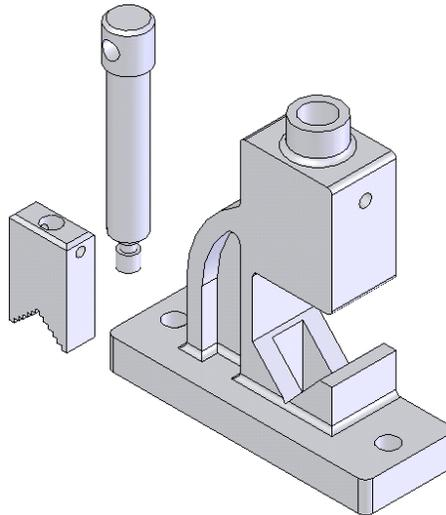

Figure 10-78 The Moveable Jaw and Screw placed in the assembly document
- c. Place the Moveable Jaw and the screw in the assembly. Apply the mates between Moveable Jaw and the Screw, refer to Figures 10-78 through 10-80.
3. Similarly, place the screw in the assembly document. Figure 10-78 shows the Moveable Jaw and screw placed in the assembly document.